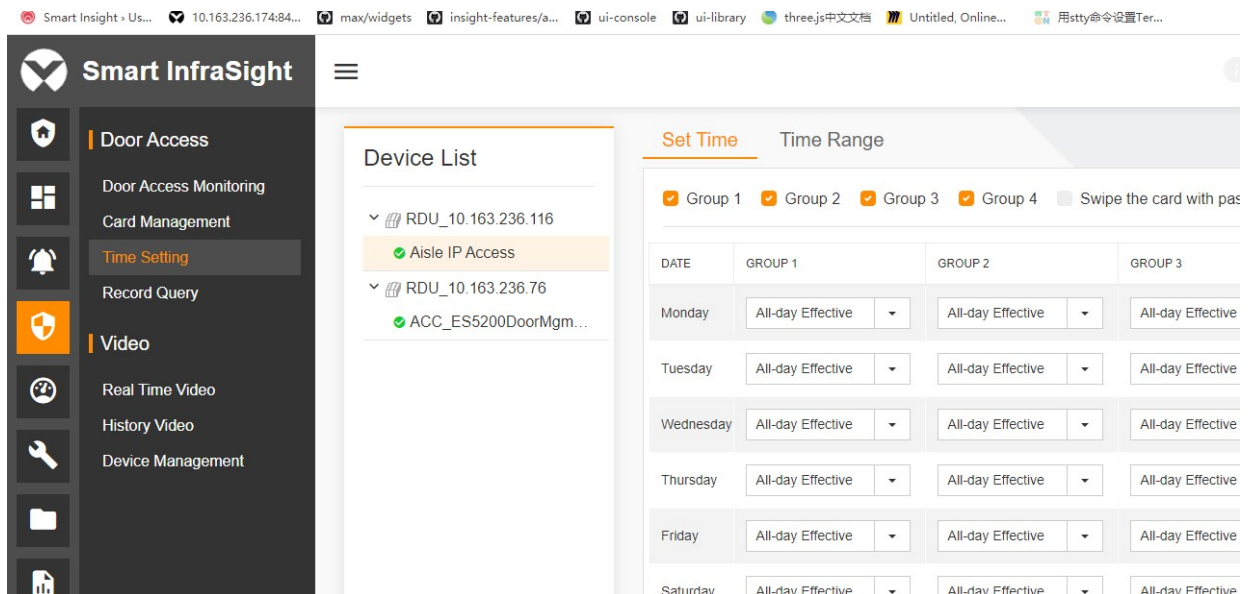

Figure 13-10 Setting the time range
1. Choose **Door Access > Time Setting**. The **Set Time** page is displayed. By default, the first item in the access controller list is selected. In addition, the permissions of four groups from Monday to Sunday are all set to **All-day Effective** by default, as shown in Figure 13-10.